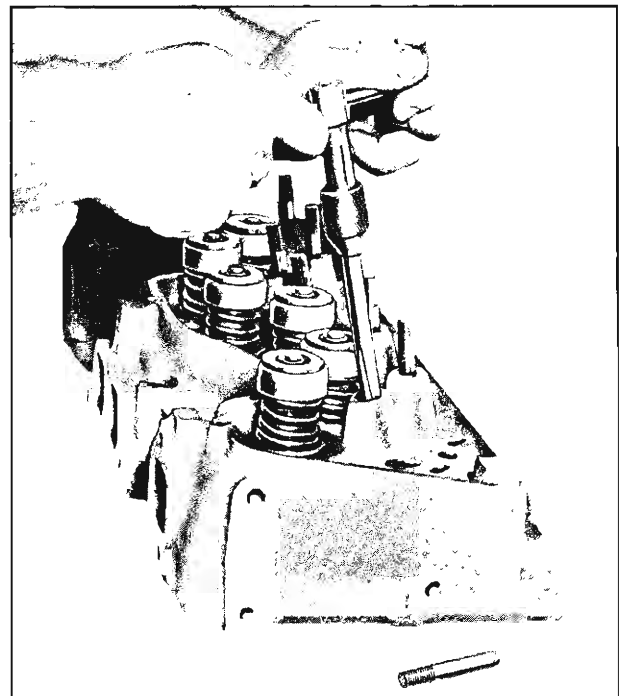

Fig. 124—Reaming Stud Hole
2. Ream hole for oversize stud, using Tool J-5715 for .003" oversize and Tool J-6036 for .013" oversize (fig. 124).